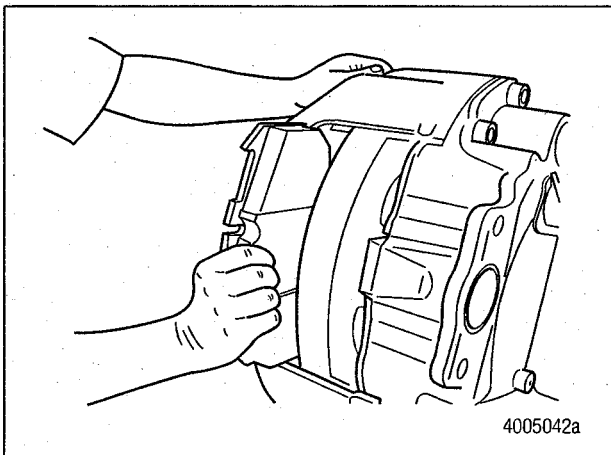

Figure 3
- D. Remove the outboard brake pad from the caliper assembly and mark the brake pad "outboard". Figure 3.